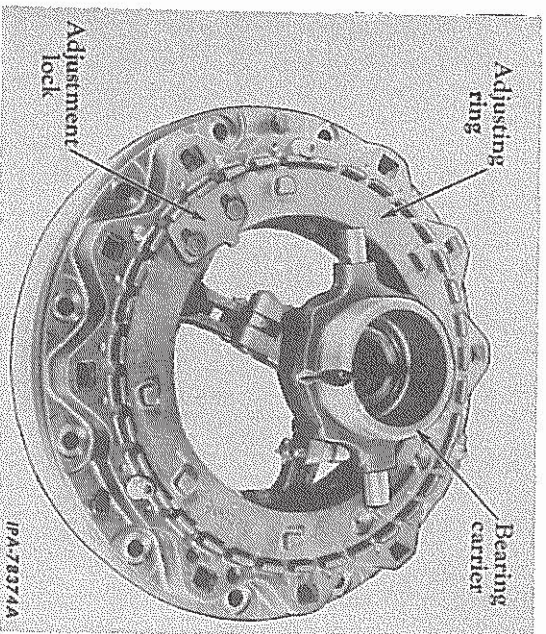

FIG. 15 — Clutch Assembly
13. Lay the clutch assembly on a bench with the bearing carrier up. Remove the nuts securing the adjustment lock to the adjusting ring and remove the lock (Fig. 15).
10. Place the adjusting plate (25, Fig. 14) on the camshaft assembly. Hold the bearing carrier and camshaft assembly up in the disengaged position while the adjusting ring is threaded into the back plate. Position the adjustment lock so the tabs or tab of the lock engage the slots in the back plate and secure with locknuts (Fig. 15).